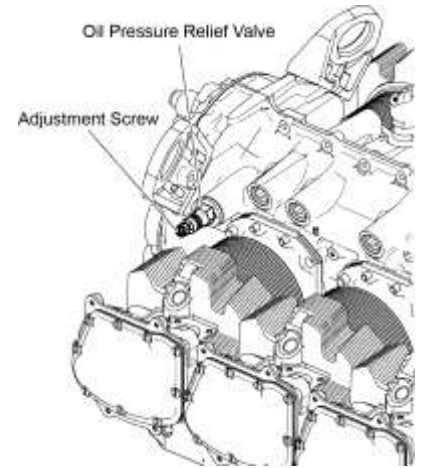

Figure 1
NOTICE: There is an adjustment screw (Figure 1) on the oil pressure relief valve housing. Rotation of this screw either increases or decreases the oil pressure to keep it within the specified operational limits in Appendix A of the *TEO-540-A1A Engine Installation and Operation Manual*.
- To **increase** oil pressure, turn the pressure adjustment screw on the oil pressure relief valve **clockwise** (Figure 1).